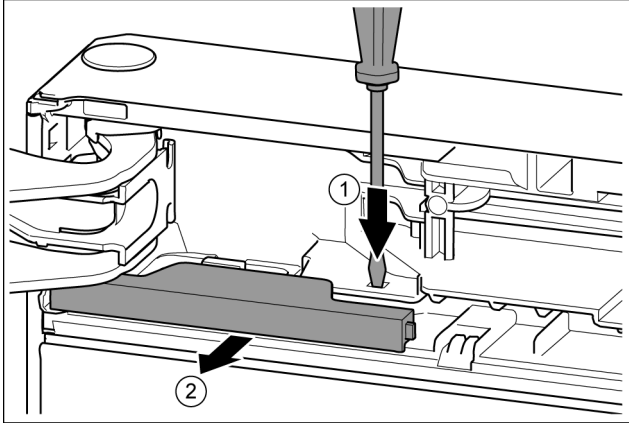

Fig. 12
- ▶ Press the tab with the slotted screwdriver. *Fig. 12 (1)*
- ▶ Pull cover out of the catch mechanism. *Fig. 12 (2)*